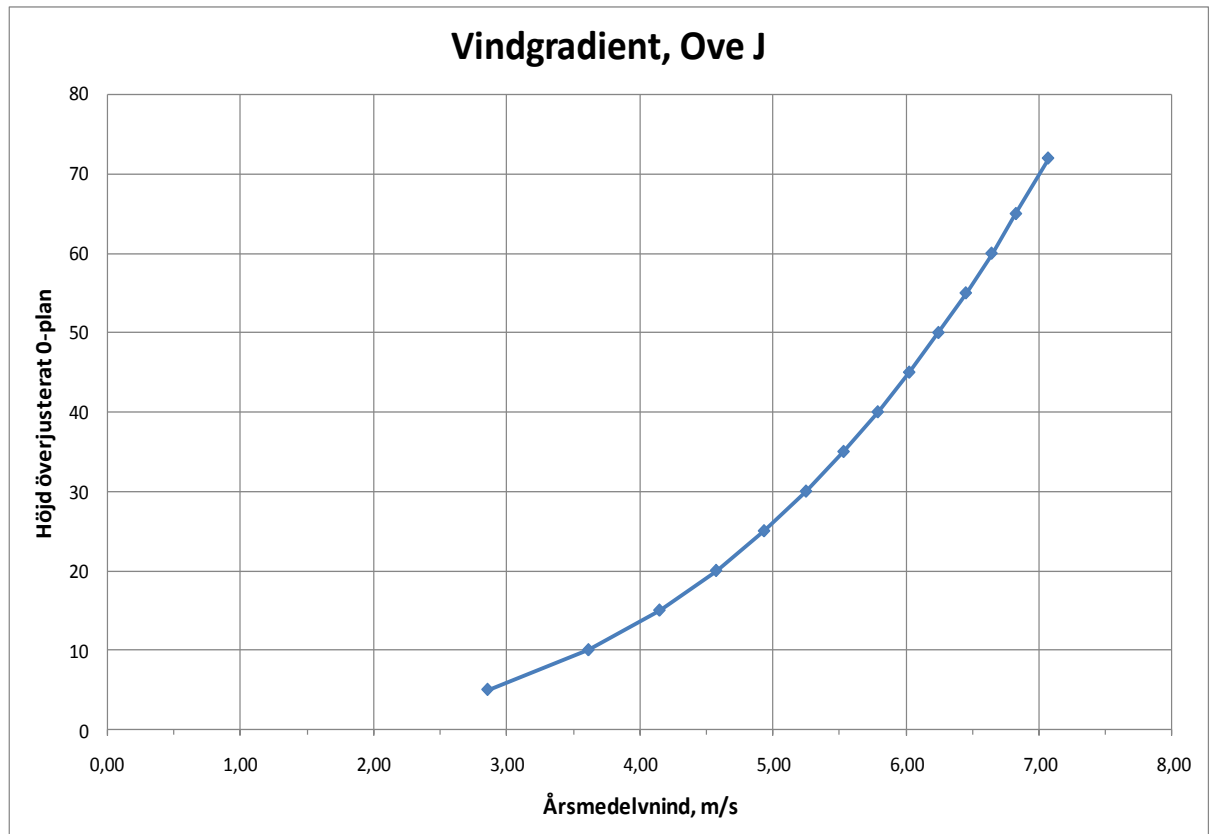

Figure 4. The wind gradient for Lösen, Karlskrona
The wind map from Uppsala University (1) indicates a yearly average wind speed of 6.2 m/s at 49 m and 7.1 m/s at 72 m. This corresponds to the wind gradient in Figure 4 below.